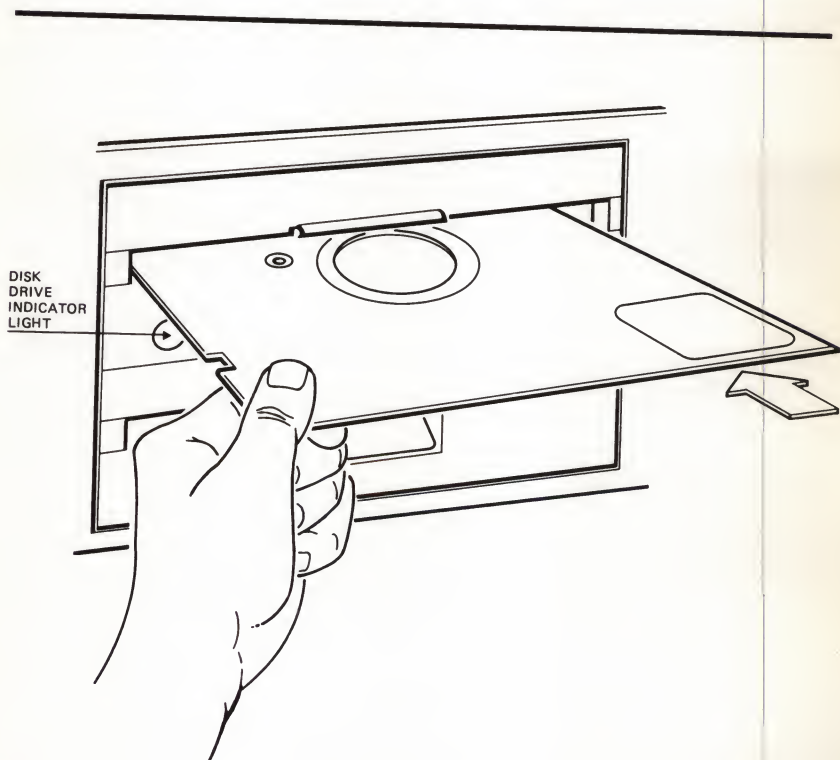

Fig. 3-3 Inserting a Diskette
To insert a diskette into a drive, refer to Figure 3-3, and do the following:
2. Insert the diskette into the slot with its label facing upward and outward, as shown in Figure 3-3.
You can tell if a diskette is being accessed by looking at the indicator light of the drive it is in. **If its indicator light is on, don't remove the diskette** (see Figure 3-3).